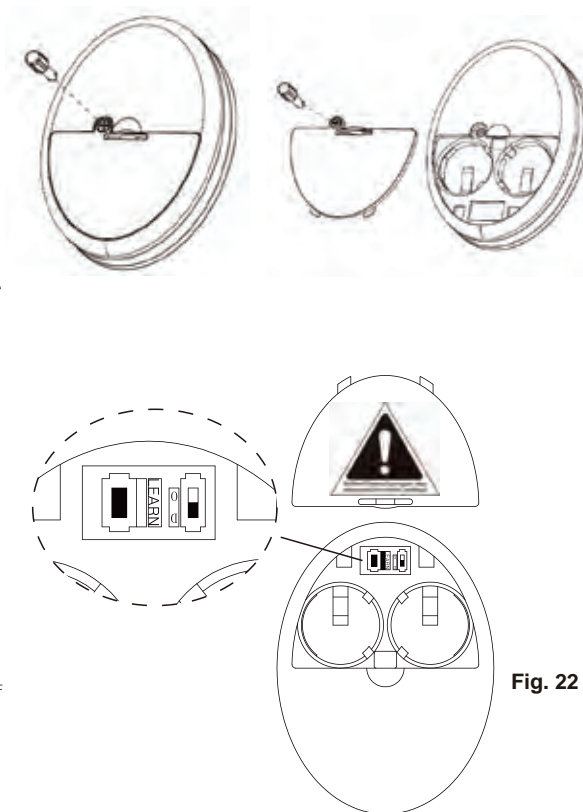

Fig. 22
ACTIVATING THE LEARNING PROCESS(Fig. 22)
2. After installation is complete, AC power is turned on within 30 seconds, press and hold the LEARN button for 3 seconds. Fan will turn on at medium speed and light (if installed) will turn on. This confirms that the SMART SYNC setting is active and ok. (FIG.22)
LIGHT FUNCTION SELECT SWITCH(Fig. 22)